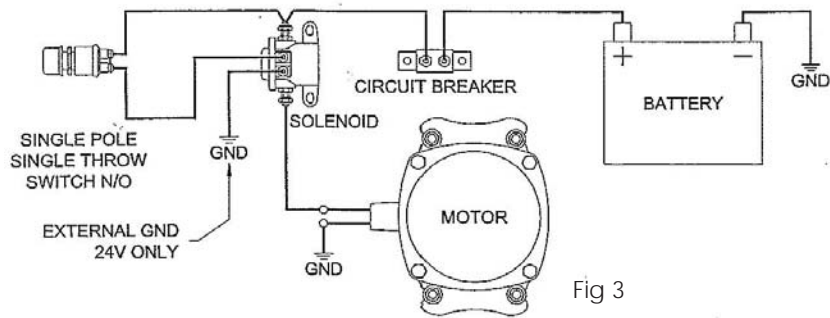

Fig 3
**Wiring Diagram 12 & 24 VDC Electrically Driven Reels - Fig 3**